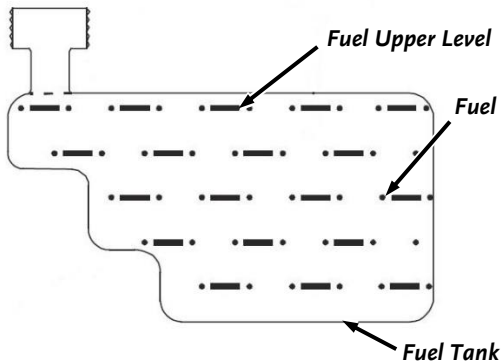

Figure 6
- 2) If the level is low, fill the gas tank with fresh, unleaded gas to approximately 1" to 1-1/2" below the top of the fill neck to allow for fuel expansion (**Figure 6**). Be careful not to overfill.